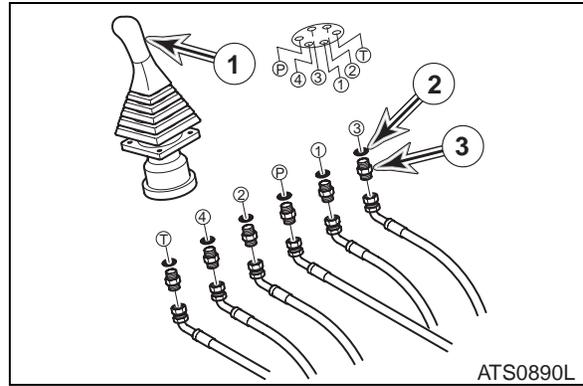

Figure 37
1. Install six fittings (3, Figure 37) and O-rings (2, Figure 37).
2. Connect hoses to joystick valve (1, Figure 37).